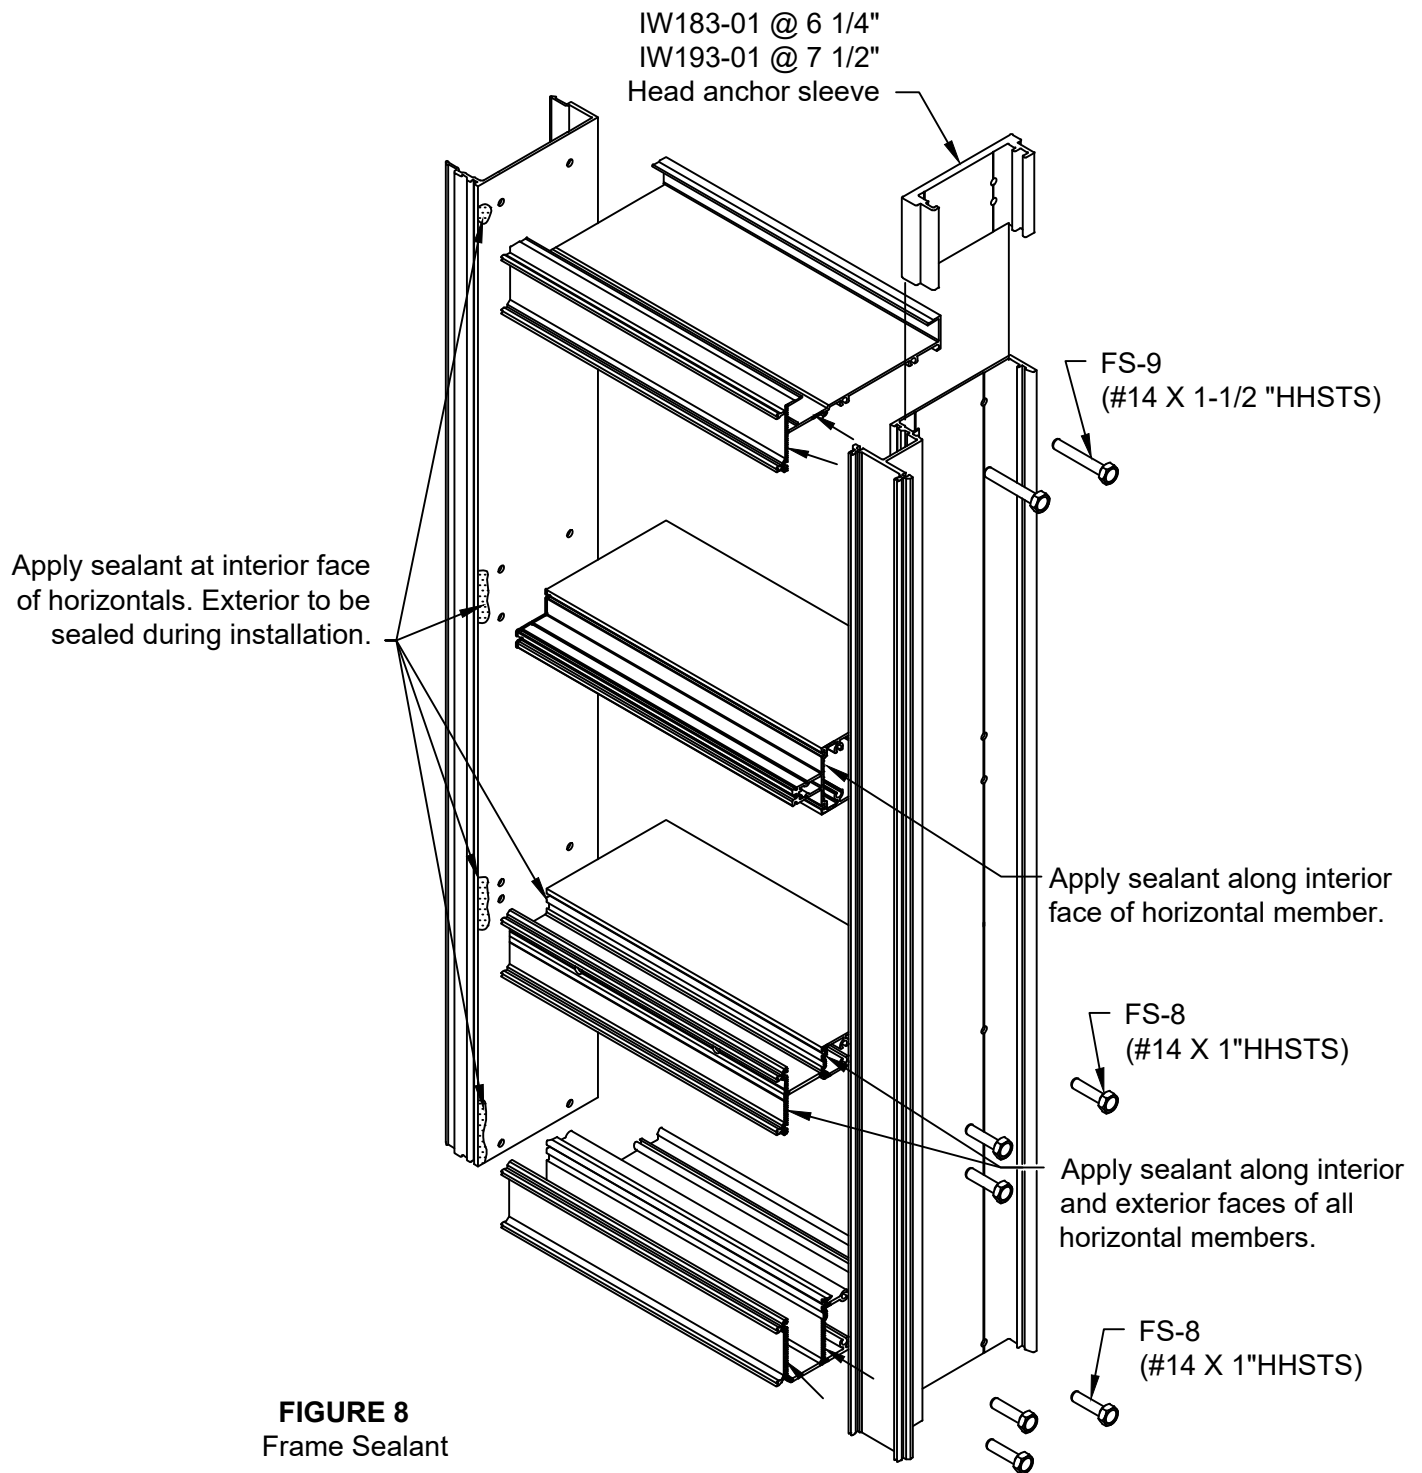
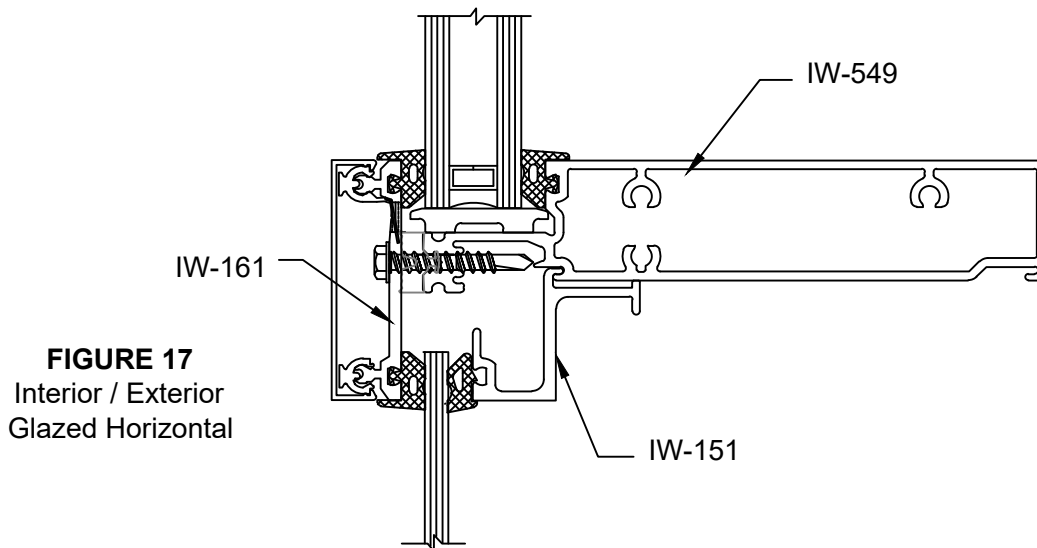
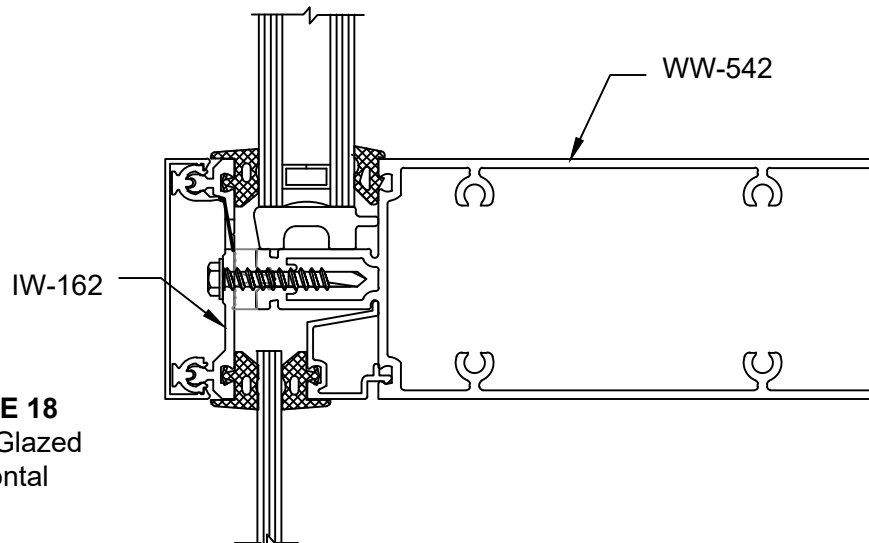

FIGURE 8
FIGURE 17
FIGURE 18
- 2.2 Apply sealant to ends of horizontals prior to attaching to verticals. SEE FIGURE 8, page 10.
- 2.4 Install IW-193-01 (IW-183-01) head anchor sleeve into top of IW-540 (IW-440) or IW-544 (IW-444) mullion. Sleeve to be installed prior to attaching head member. Sleeve attached using FS-9 assemble screws fastened into head extrusion. SEE FIGURE 8, page 12
- 2.5 Attach head to vertical using two FS-9 fasteners. Attach intermediate horizontals and sill members using FS-8 fasteners. SEE FIGURE 8, page 10. Tool excess sealant at horizontal-to-vertical joints. Optional exterior glazed horizontal may require additional fasteners. SEE FIGURE 18, page 19 for optional horizontal information.
- 3.11 When glazing areas of wall requiring mid span anchors it will be necessary to exterior glaze. Reliance-IG SS offers two exterior glazed horizontals for this purpose. The horizontal shown in FIGURE 17 is for areas where interior and exterior glazing may be required such as at the upper horizontal of an area with mid span anchors or may be used for easy reglazing. The horizontal in FIGURE 18 is for exterior glazed areas only and may also be used at the upper horizontal of areas with mid span anchors.
- 4.8 Exterior glazing will be necessary on lites located adjacent to mid-span anchors and may also be required at building floors. Horizontals with a removable pressure plate must be used at top and bottom of lite to allow for exterior glazing. See FIGURE 17 & 18, page 19. If exterior glazing SSG system, WW-300 bridges will be installed at each horizontal. See FIGURES 33,34 & 35, pages 32 & 33.